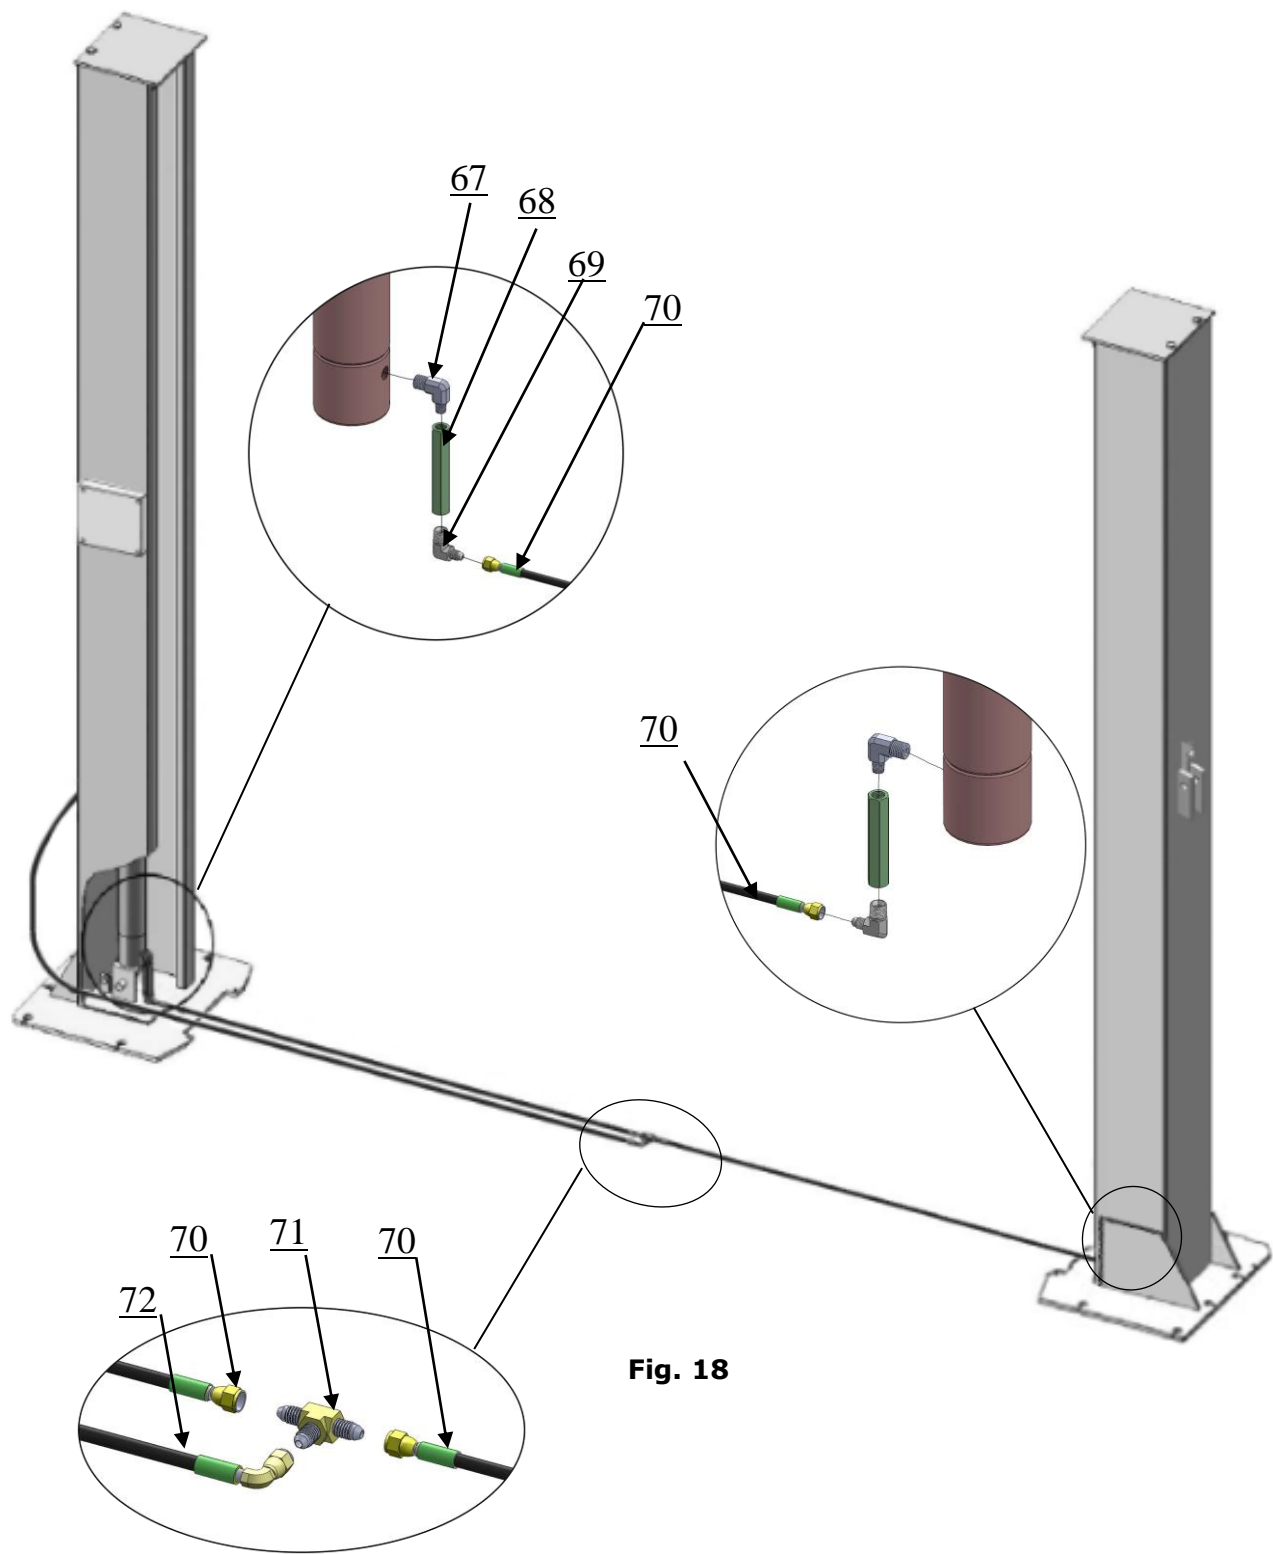

Fig. 18
I. Assembly oil hose assy. (See Fig. 18).